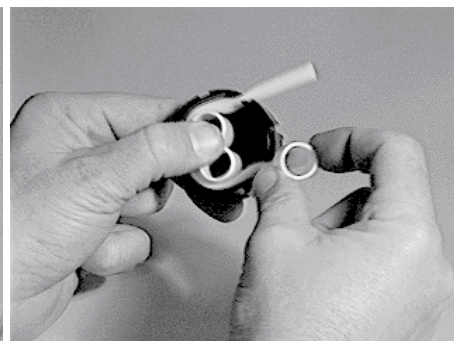

Figure 4
Step 11: Place two of the three rollers into the pump body, pushing them against the tubing. Hold them in position with your left thumb and push the third roller into place. See Fig. 4.